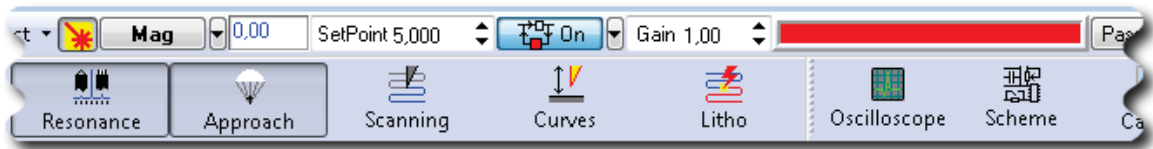

Fig. 8-8. The feedback loop is closed
1. Click the  button in the top bar to close the feedback loop (the button will change its appearance to ) . This starts extension of the Z scanner to its maximum. Progress of the extension is displayed in the Scanner extension indicator (see Fig. 8-8) by degree of the colored filling.